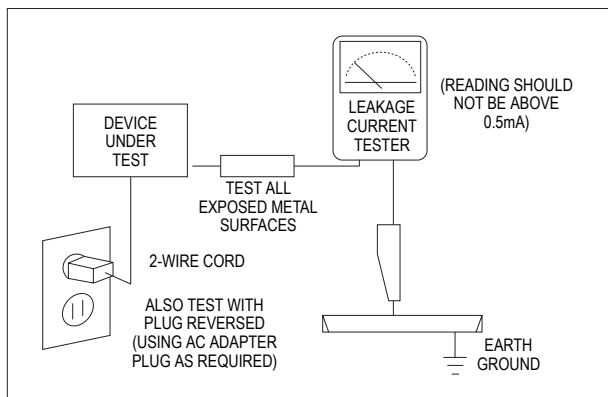

Fig. 1-1 AC Leakage Test
3. Check for Electricity Leakage (Figure 1-1)